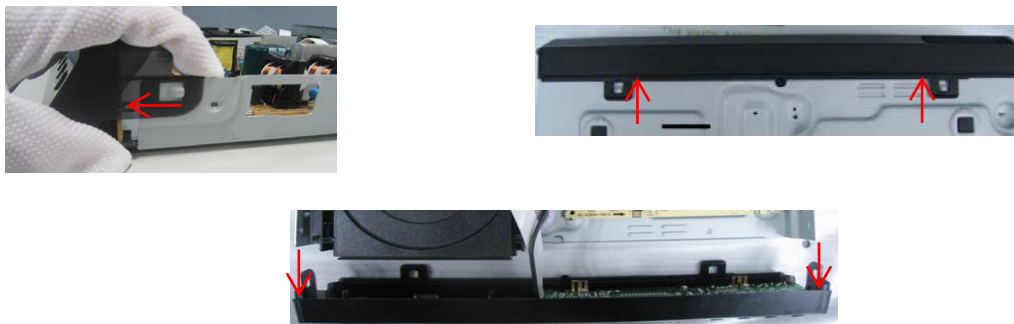

Figure 3
Step3 :Dismantle Front Panel, disconnect the connectors (XS604, XP12), need release 2 snaps of Front Panel & 2 snaps of bottom cabinet , then gently pull the Panel out from the set. (Figure 3)